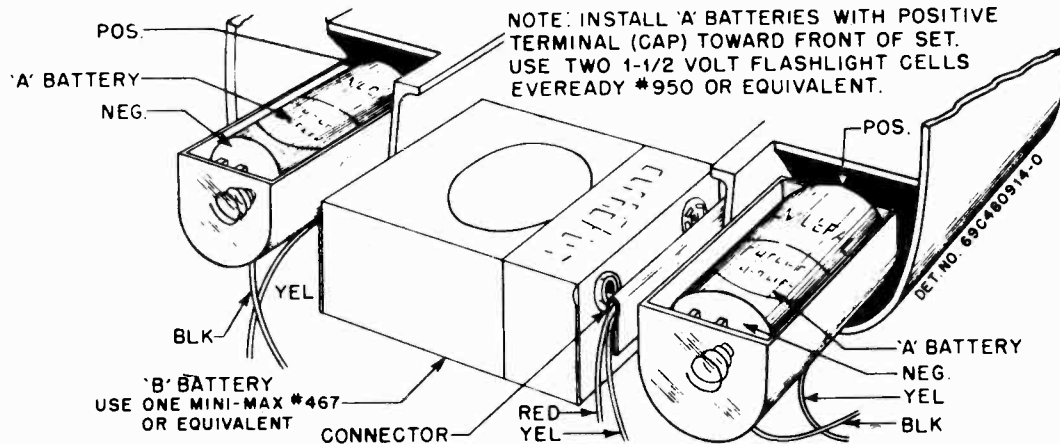

FIGURE 1. BATTERY REPLACEMENT DETAIL
**BATTERY OPERATION.** Open the rear cover and install the batteries. The rear cover is opened by inserting the fingertips into the slots under the handle and pulling back. Complete battery installation instructions will be found on the label inside the receiver or see Figure 1.